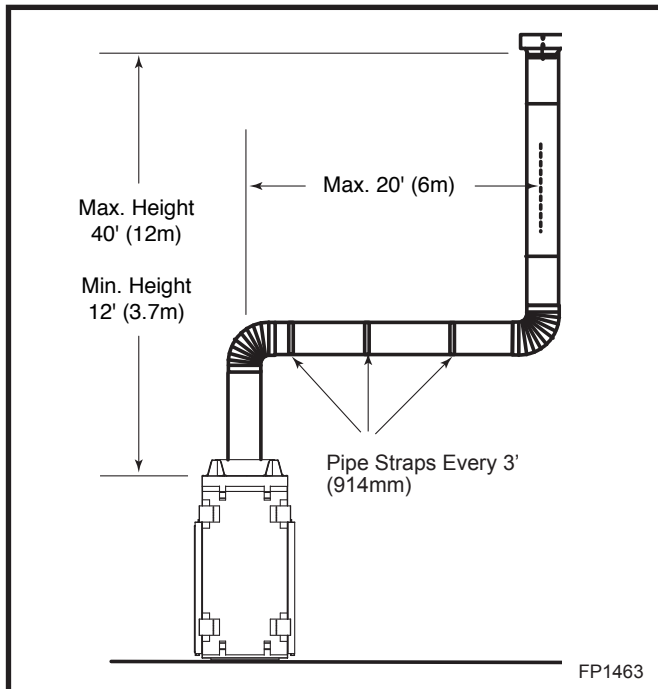

Fig. 34 Support straps for horizontal runs.
- Vertical installations up to 40' (12 m) in height. Up to a 20' (6 m) horizontal vent run can be installed within the vent system using a maximum of three (3) 90° elbows. (Fig. 34)
- A 2' (610 mm) vertical section must be installed before any offset. A maximum of 20' (6.1 m) horizontal and three (3) 90° elbows may be installed with a minimum of 12' (3.66 m) vertical section above the flue collar of the unit. (Fig. 34)